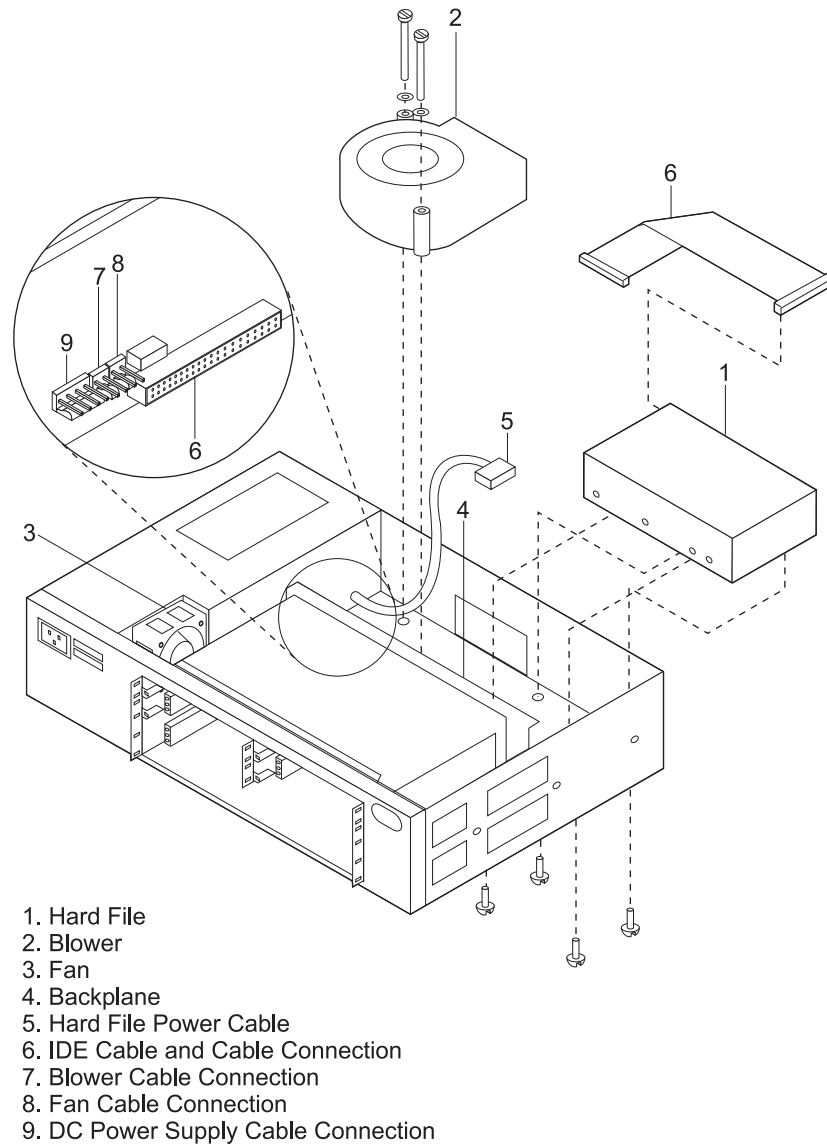

Figure 2-20. Model 4xx Chassis with a Hard Drive
8. Connect the new hard drive to the IDE cable and the power cable. (See Figure 2-20 on page 2-39.)